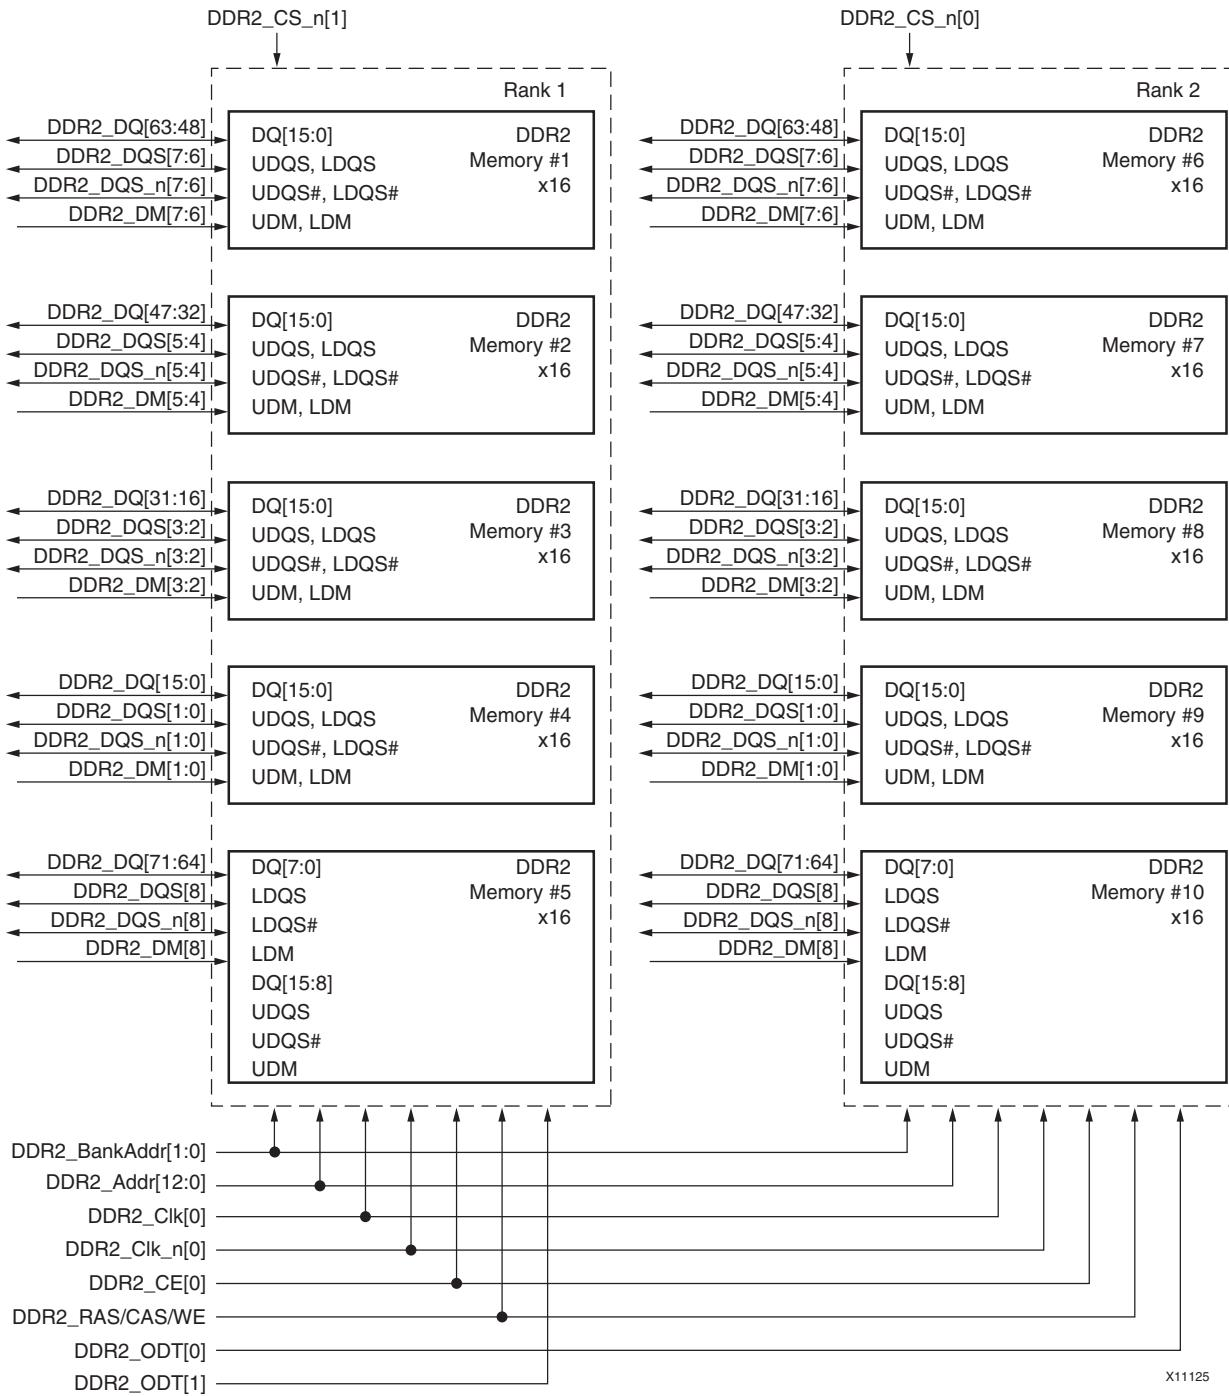

Figure 9: Example DDR2 Memory Connections
The example in Figure 9, page 95 has the following specified parameters:
- Within a particular rank, the signals `DDR2_CS_n` and `DDR2_ODT` are connected to each memory in the rank. Some memory manufacturers have specific recommendations for how these signals should be connected. For example, when using a dual rank DIMM, the recommendation might be to assert `DDR2_ODT` on the same rank that `DDR2_CS_n` is asserted (as shown in Figure 9, page 95). Other recommendations might be to assert `DDR2_ODT` on the opposite rank that the `DDR2_CS_n` is asserted, which can be achieved by swapping `DDR2_ODT[0]` and `DDR2_ODT[1]`.